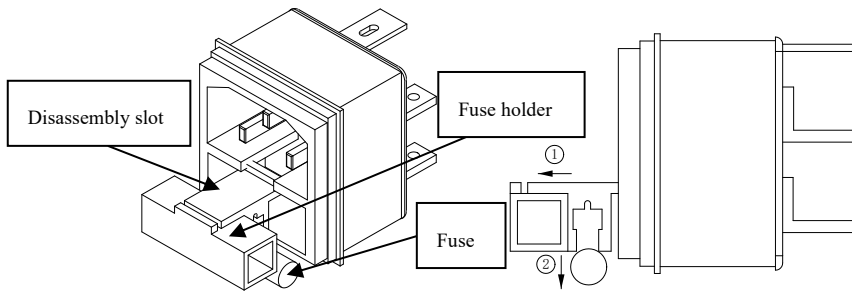

Figure 8-1
- (1) As shown in Figure 8-1, use a flat-blade screwdriver (or other objects) to insert into the disassembly slot. Move in the direction of arrow ①, and remove the fuse holder.